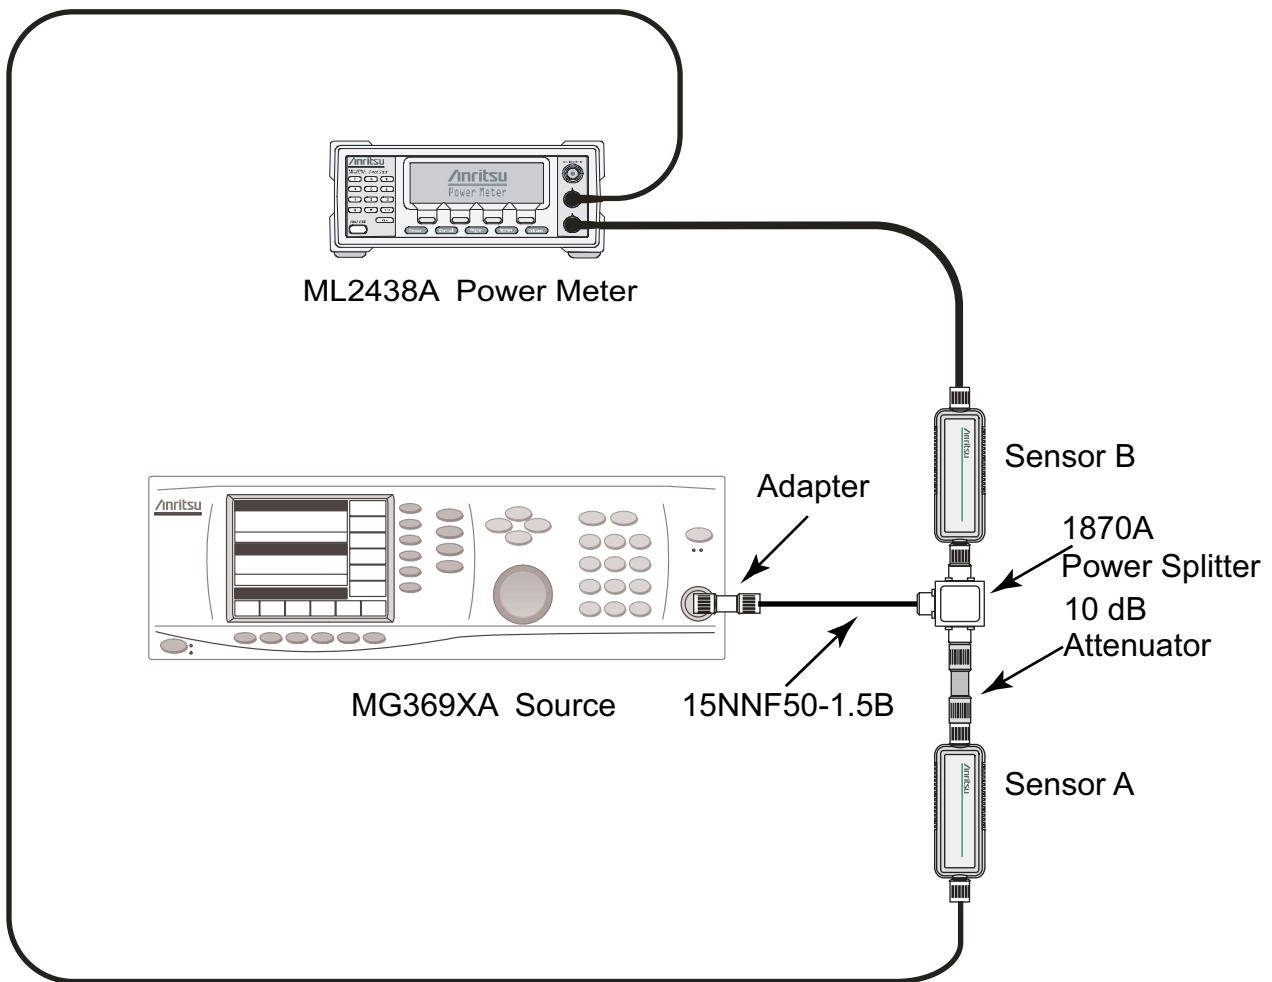

Figure 2-11. Fixed Level with Varying Frequency – Component Characterization Setup
2. Connect the equipment as shown in Figure 2-11